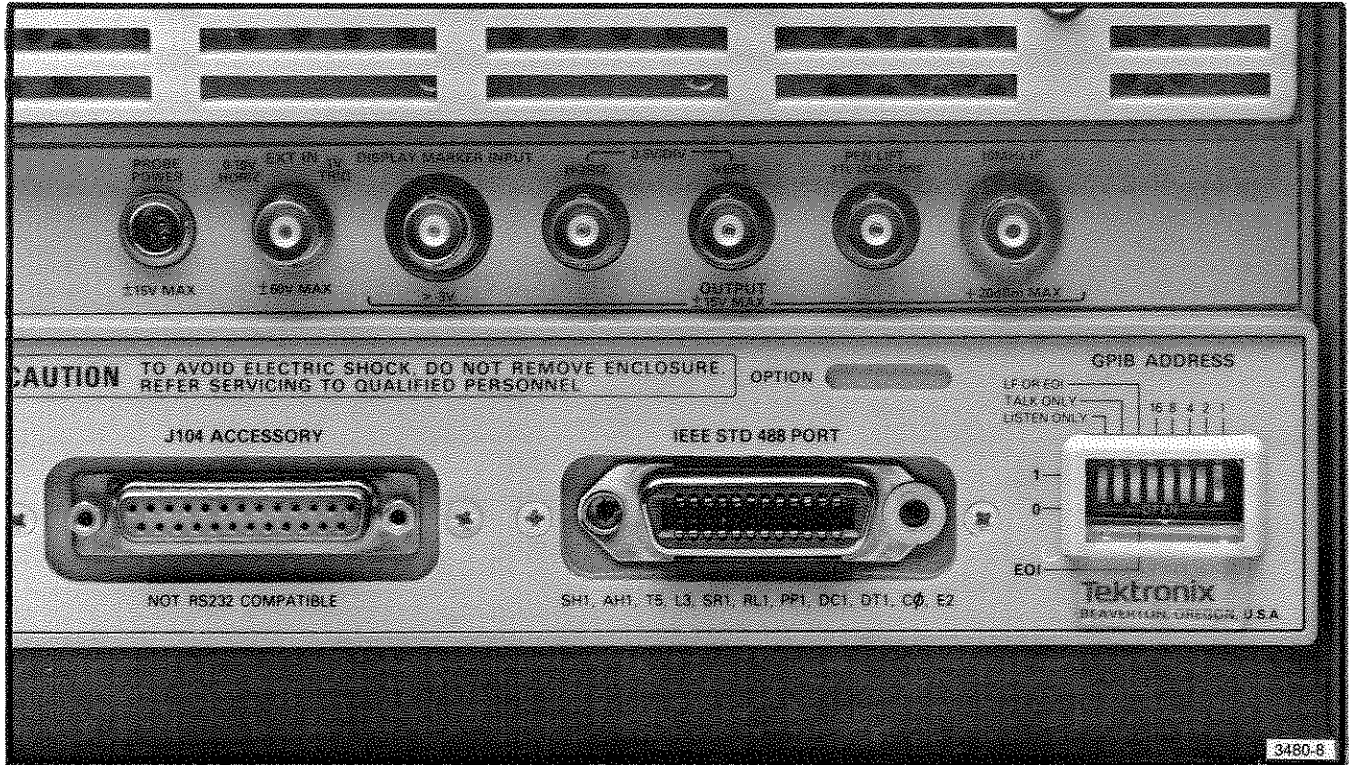

Fig. 3-15. The 496P GPIB port and switches.
Rear Panel (Figs. 3-15 and 3-16)
**TALK ONLY, LISTEN ONLY Switches.** The 496P switches for talk-only and listen-only operation are part of the GPIB ADDRESS switch bank (Figs. 3-15 and 3-16). Set either or both switches—an extension of the IEEE 488 standard allows you to enable both talk-only and listen-only operation. If 496P power is already on, press RESET TO LOCAL to cause a change in these switches to take effect.
The 496P can be connected directly to a GPIB system with the cable supplied with the instrument. The port is shown in Fig. 3-15. To avoid interference on the bus, connect the 496P after turning on power or while the controller on the bus is turned off.